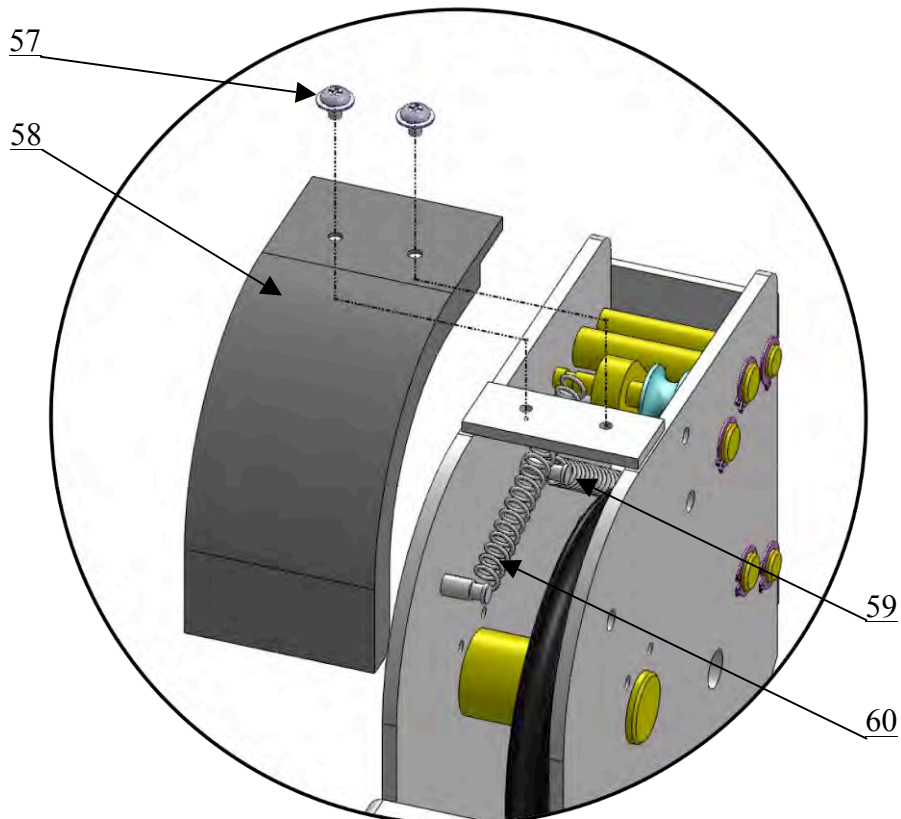

Fig.36
N. Install spring and safety cover of cross beam (See Fig. 36).